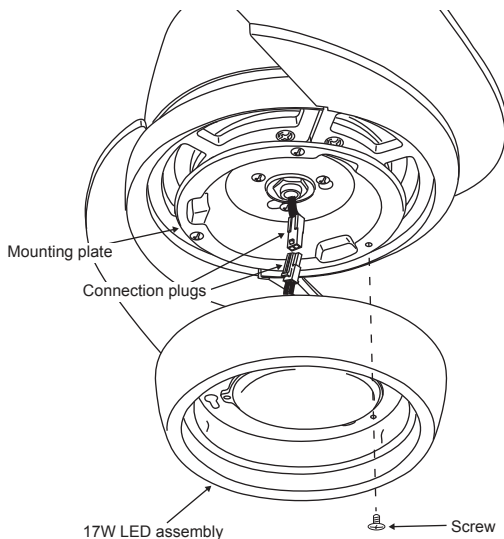

Figure 18
Step 1. Remove 1 of 3 screws from the mounting plate and loosen the other 2 screws (Do not remove). (Fig 18)
Step 3. Place key holes on the light kit plate over the 2 screws previously loosened from the mounting plate, turn light kit plate until it locks in place at the narrow section of the key holes. Secure by tightening 2 screws previously loosened and the one previously removed. (Fig 18)